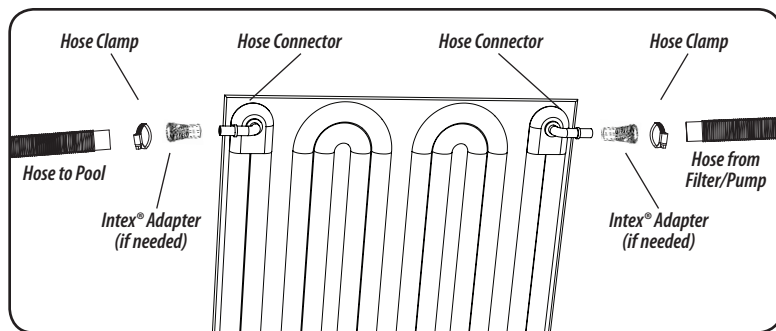

Figure 1
Using a hose clamp, secure the loose end of your existing pool return hose to the outlet of the heater. See Figure 1.
1. Attach the collared tube adapter with o-ring to the central hose connector under the base. Make sure the o-ring is in the collared tube adapter prior to attachment (see Figure 1).